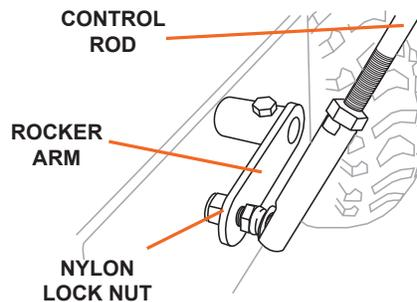

Figure 5
5. Attach the other end of the gear shift control rod to the rocker arm on the rear of the snow blower (see Figure 5). Pass the attachment bolt on the control rod through the hole in the rocker arm and secure with a nylon lock nut.
2. Attach the chute crank bracket aligning the chute notches with the spiral end of the chute directional control assembly using the two hex bolts, flat washers and nylon lock nuts from the hardware kit (see Figure 5). Lubricate both ends of the chute directional control crank with petroleum jelly, paraffin wax, or light machine oil.